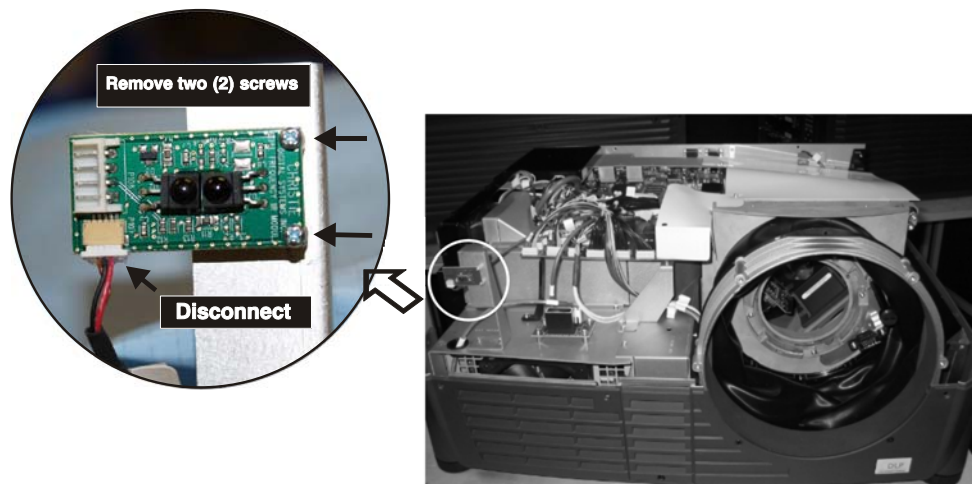

Figure 44. Remove the Front IR Sensor
- Remove the screws and standoffs from the PCB – two (2) screws. (Figure 44.)